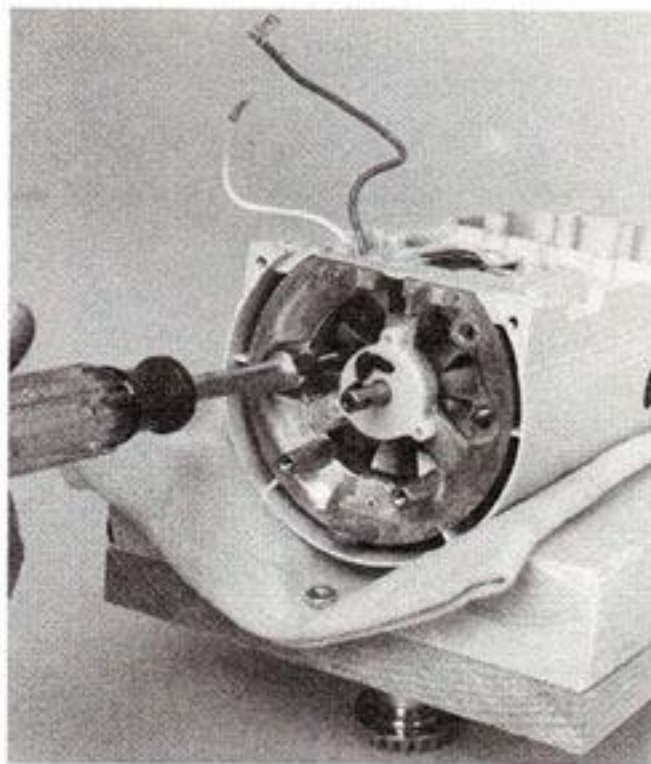
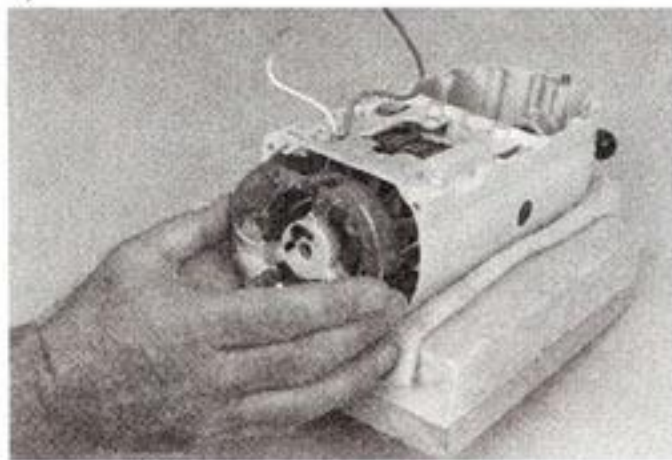
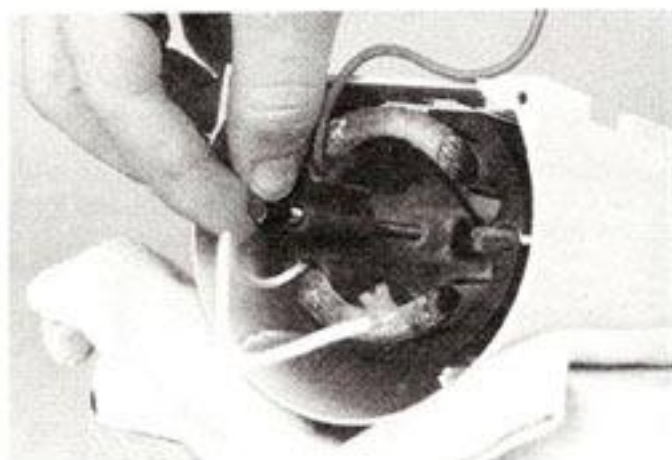

Fig. 27
Fig. 28
Fig. 29
- E. Unscrew and remove the two #10-24 nuts (Fig. 27), remove the bearing bracket (Fig. 28), and then the motor stud sleeve (Fig. 29).